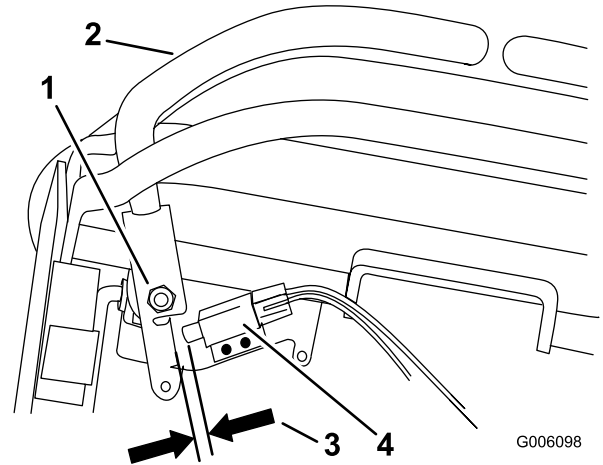

Figure 43
- Check the gap between the control lever and switch as shown in Figure 43.
- If needed, loosen the screws holding the switch and adjust the switch (Figure 43).